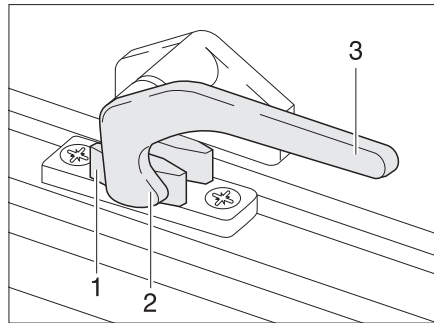

Fig. 38 Catch lever in "closed" position
- Turn the catch lever (Bild 38,3) a quarter turn towards the centre of the window.
- Turn the catch lever (Bild 38,3) a quarter turn towards the window frame. The locking catch (Bild 38,2) is located on the inside of the window catch (Bild 38,1).
- "Firmly closed" (Bild 38).